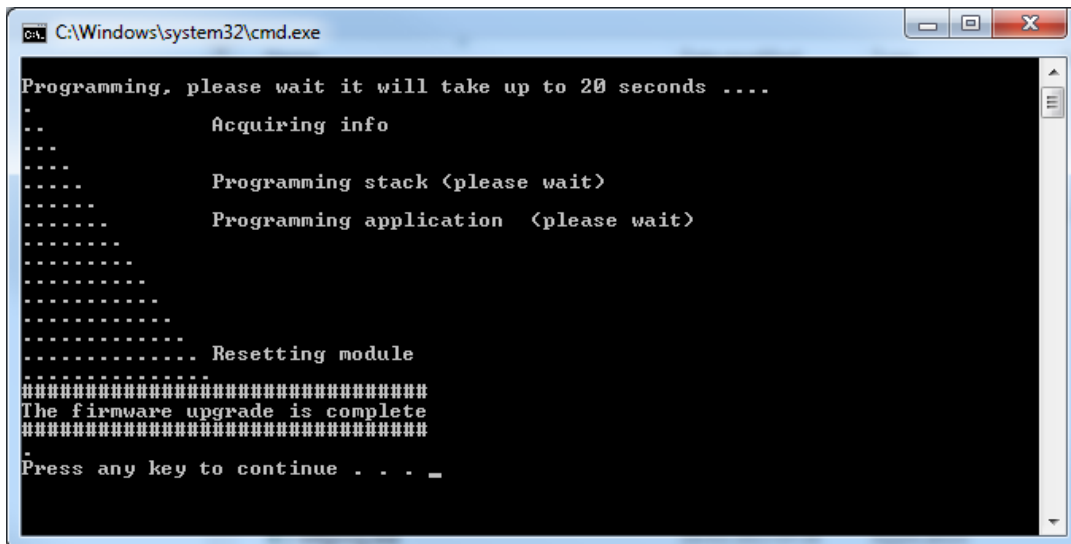

Figure 9: Firmware upgrade window
5. When the BL600 firmware download completes, the console window displays the following (Figure 9).